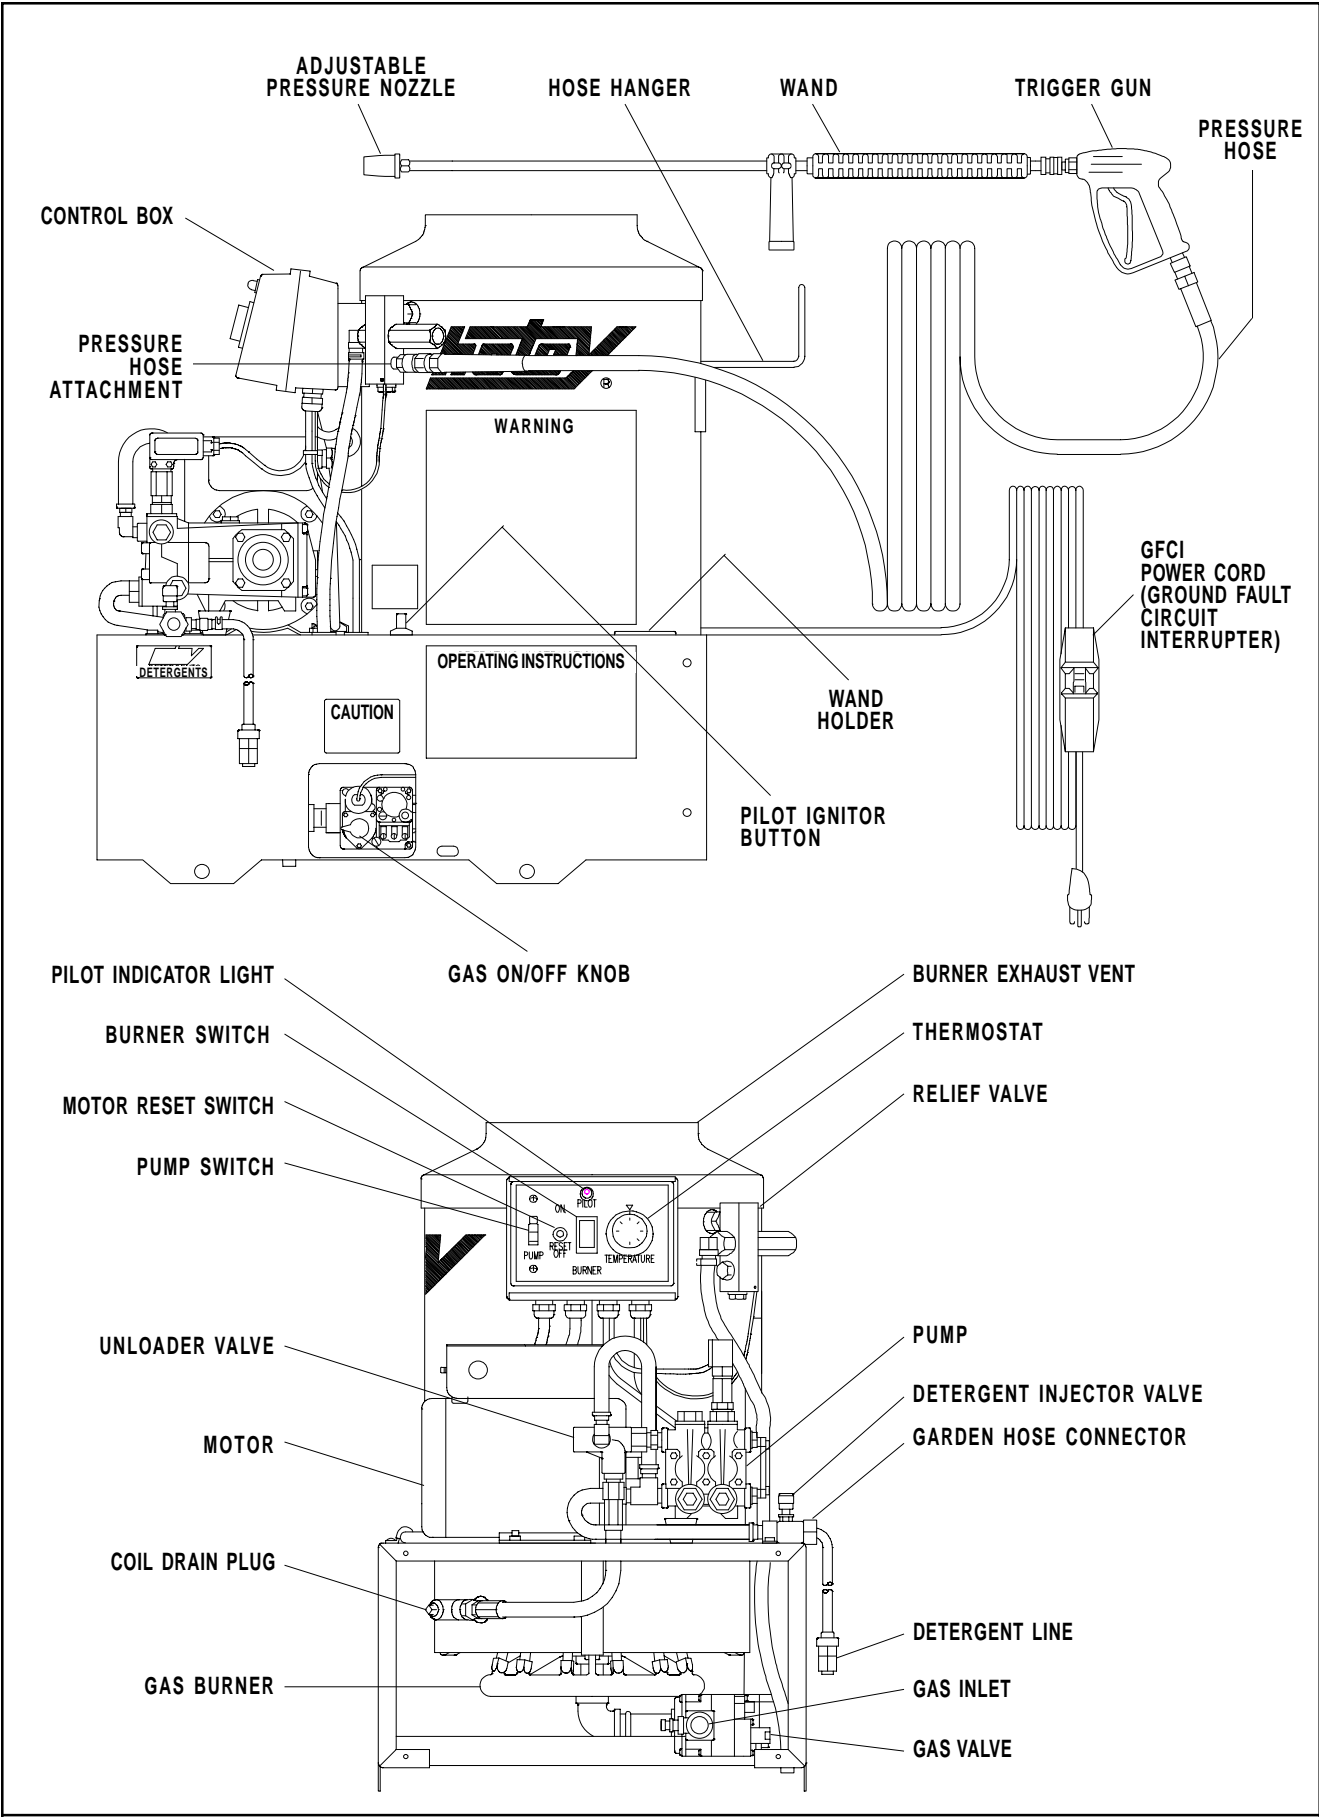

Figure 1 - Machine Component Layout
Connect water supply hose to the garden hose connector. See **Figure 1** for location. The water faucet and supply hose must be capable of providing a minimum of 2.2 gallons per minute (GPM).
3. Connect water supply hose to the garden hose connector, see **Figure 1** for location. The water faucet and supply hose must be capable of providing a minimum of 2.2 gallons per minute (GPM).